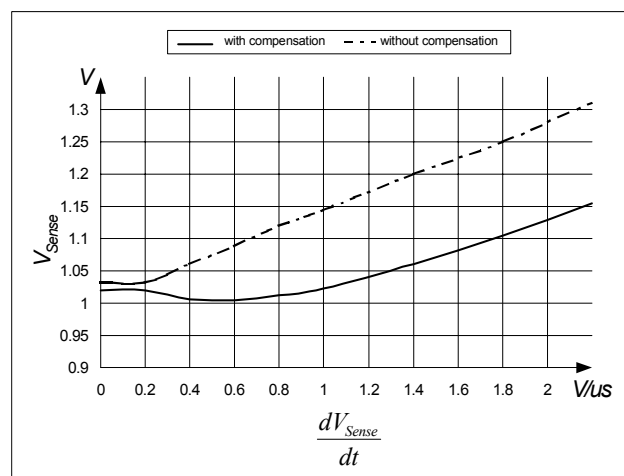

Figure 16 Overcurrent Shutdown
E.g. $I_{peak} = 0.5A$ with $R_{Sense} = 2$. Without propagation delay compensation the current sense threshold is set to a static voltage level $V_{csth} = 1V$. A current ramp of $dI/dt = 0.4A/\mu s$, that means $dV_{Sense}/dt = 0.8V/\mu s$, and a propagation delay time of i.e. $t_{Propagation Delay} = 180ns$ leads then to a I_{peak} overshoot of 12%. By means of propagation delay compensation the overshoot is only about 2% (see Figure 16).